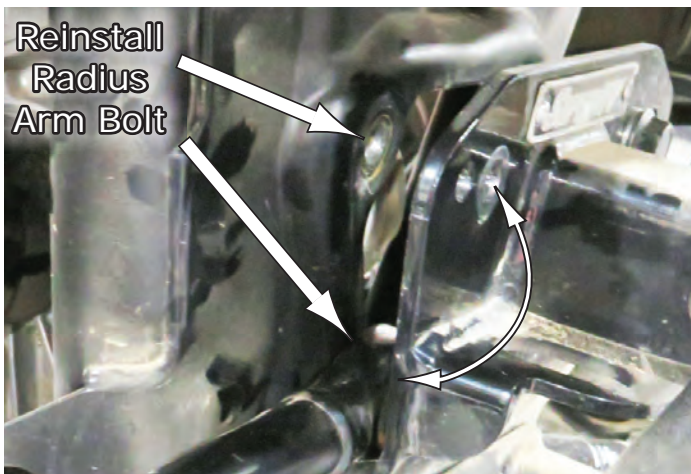

Fig.25a
25. After the motor mount is installed, you can now replace the Radius Arm Upper Bolt you removed previously. Reinstall and secure as shown in **Fig.25a-b**.